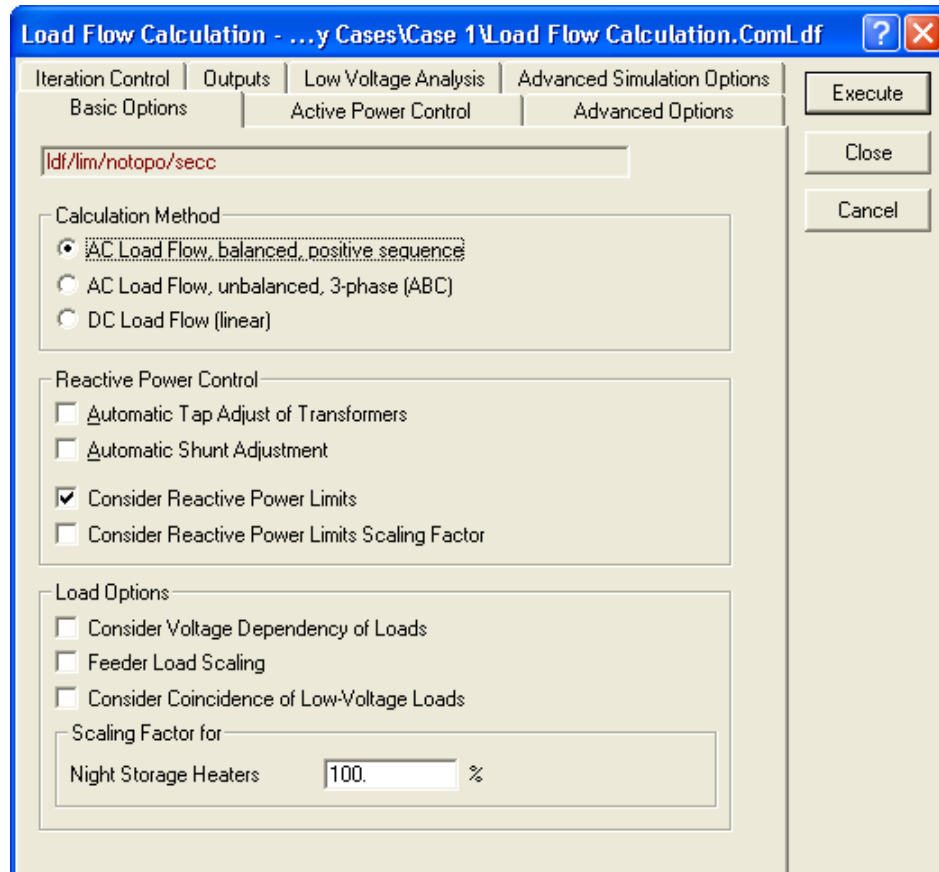

Fig. F.5: Consider Reactive Power Limits in the Load Flow Calculation
- ▶ Perform a load flow with the option *Consider Reactive Power Limits* enabled (see figure F.5).